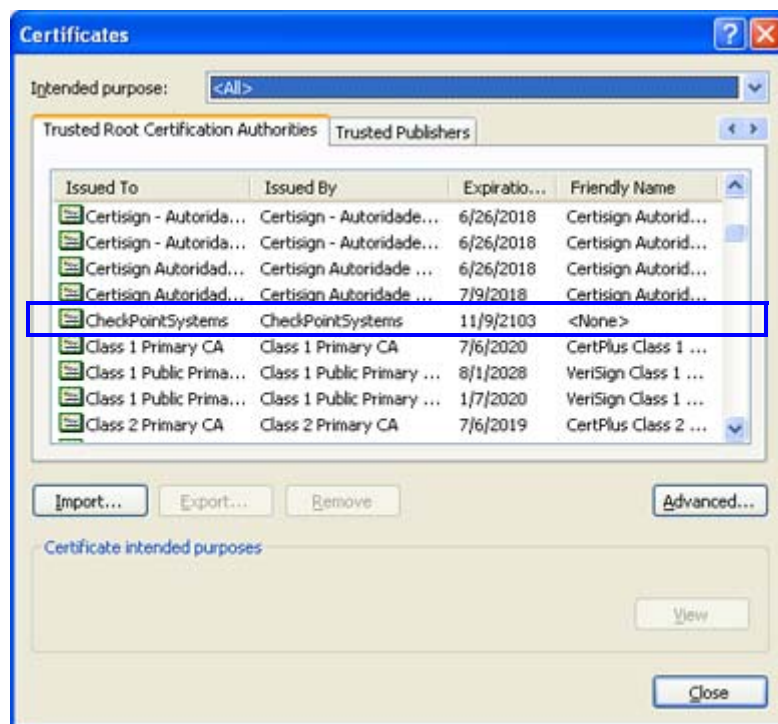

Figure 5.3 Certificates window
- 5 Select the **Trusted Root Certification Authorities** tab (Figure 5.3). Ensure that **CheckPointSystems** is included in the list.